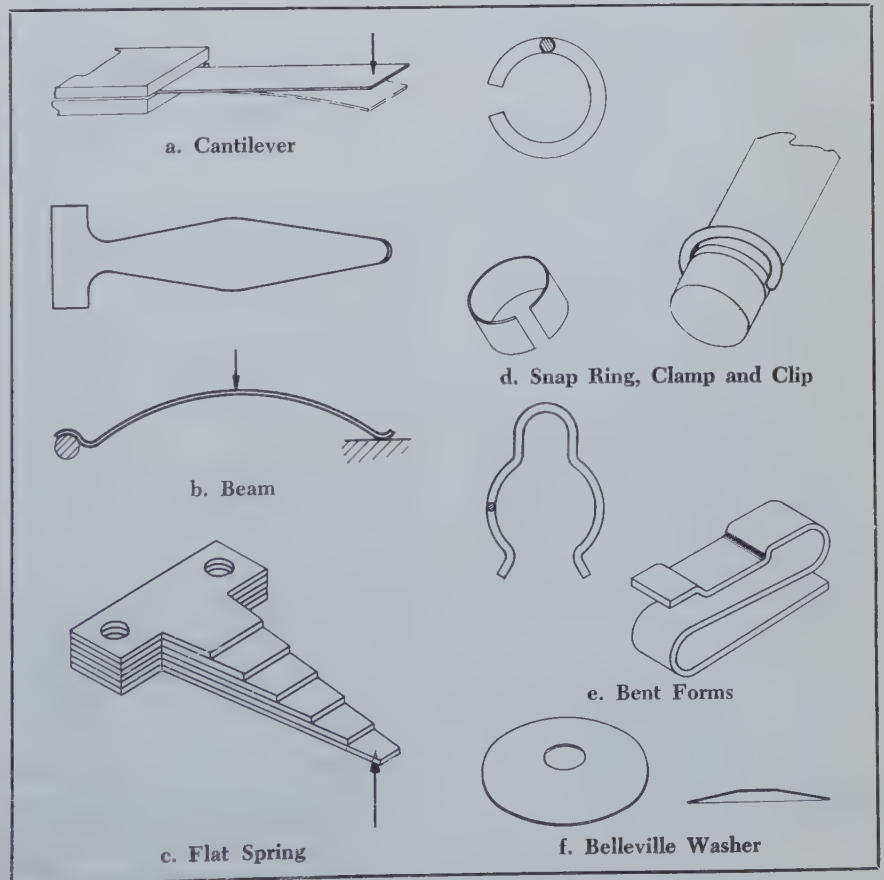

FIGURE V-1. Flat Springs and Miscellaneous Springs.
INTERESTING and commonly used types of springs are covered under the miscellaneous heading. These include (1) flat springs (cantilevers, beam, and leaf), (2) bent forms, (3) snap rings, and (4) spring washers; see Figure V-1. These springs store and deliver energy by bending.